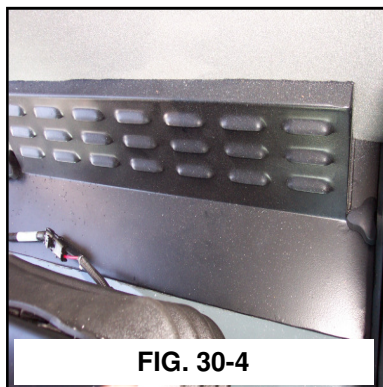

FIG. 30-4
**CAB FILTERS**– Inside the cab are two filters (fig. 30-4), a charcoal filter and a paper filter. Refer to the SERVICE section C on filters for maintenance information. Refer to the Hagie STS 16 Parts Manual for replacement part information.